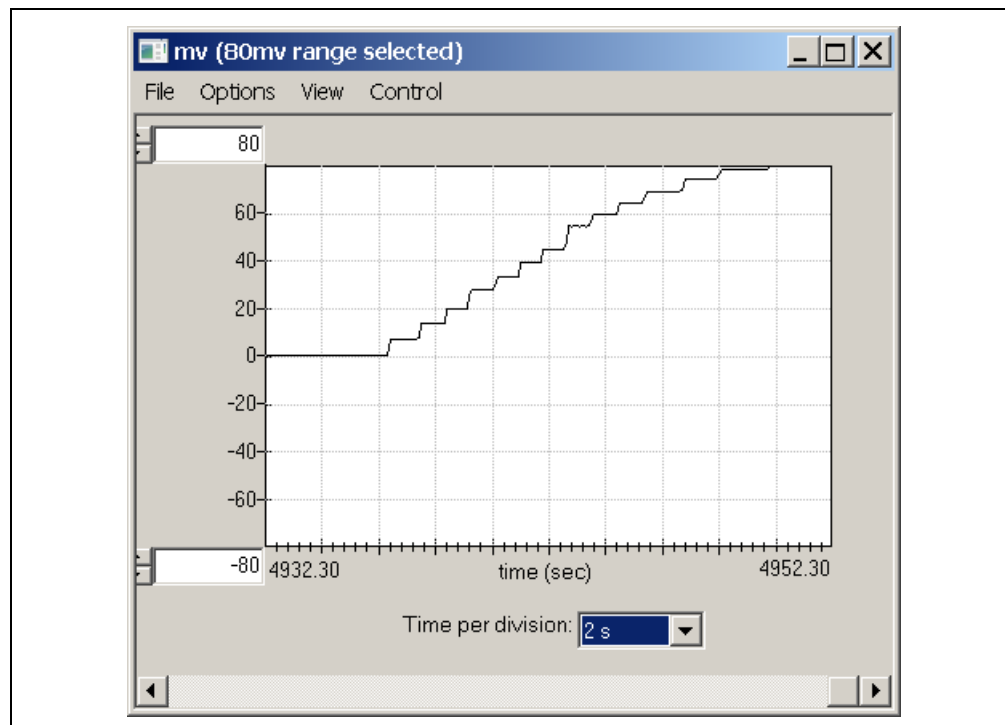

FIGURE 5-3: *Steady-State Current Plot.*
- Turn the Rotary Switch 1 to move through positions "1" through "F" and observe the plot (Figure 5-3).